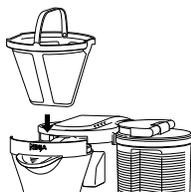

Fig. 14
- 2 Insert the Ninja Premium Gold Tone Filter or a No. 4 Paper filter, into the brew basket making sure that it is fully seated. (Fig. 14)